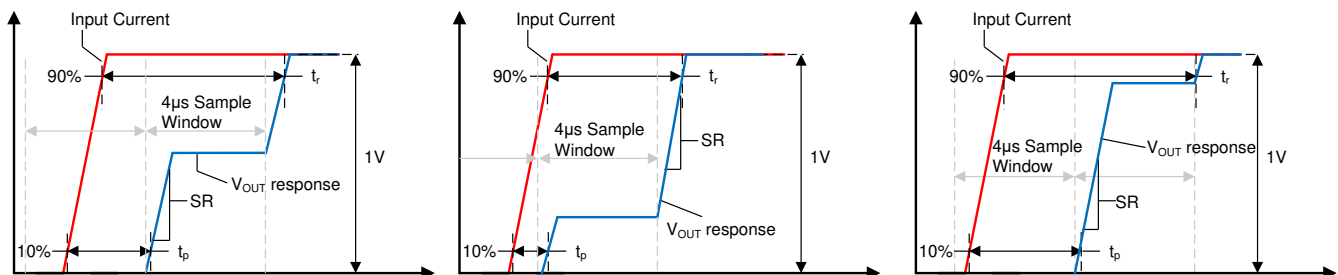

Figure 8-3. Small Current Input Step Transient Response
Slew rate (SR) is defined as the V_{OUT} rate of change for a single integration step's output transition, as shown in Figure 8-3. Because the device often requires two sampling windows to reach a full 90% settling of its final value, this slew rate is not equal to the 10%-90% transition time for the full output swing.
Propagation delay is the time period between the input current waveform reaching 10% of its final value and V_{OUT} reaching 10% of its final value. This propagation delay is heavily dependent upon the alignment of the input current step and the sampling period of the TMCS1107-Q1, as shown for several different sampling window cases in Figure 8-3.
Response time is the time period between the input current reaching 90% of its final value and the output reaching 90% of its final value, for an input current step sufficient to cause a 1-V transition on the output. Figure 8-3 shows the response time of the TMCS1107-Q1 under three different time cases. Unless a step input occurs directly during the beginning of one sampling window the response time will include two sampling intervals.